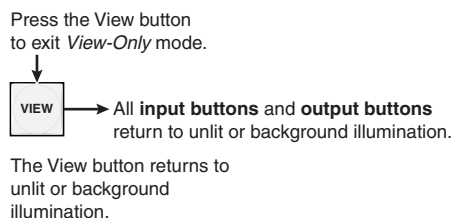

Figure 3-26 — Press the View button to exit View-only mode
7. Press and release the View button to exit *View-only* mode (figure 3-26).